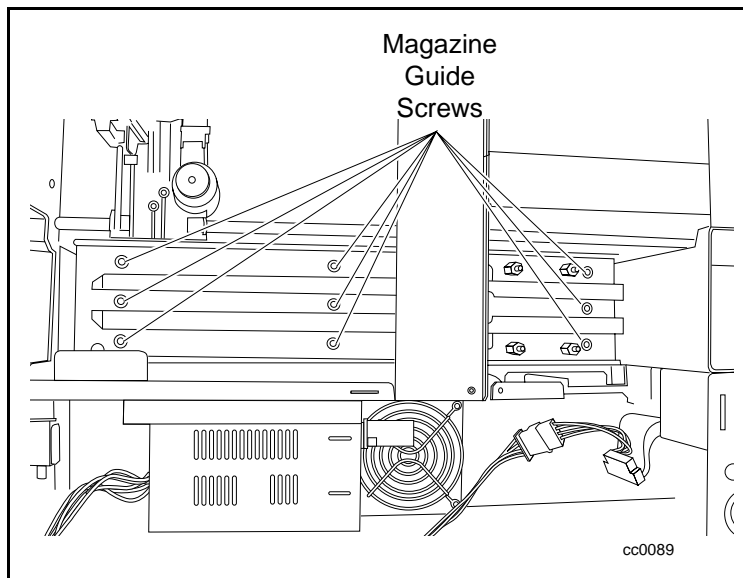

Figure 5-19. Magazine guide screw locations
6. Remove the nine screws that secure the magazine guide to the Library chassis (see Figure 5-19).
2. Tighten the nine screws on the magazine guide (see Figure 5-19).